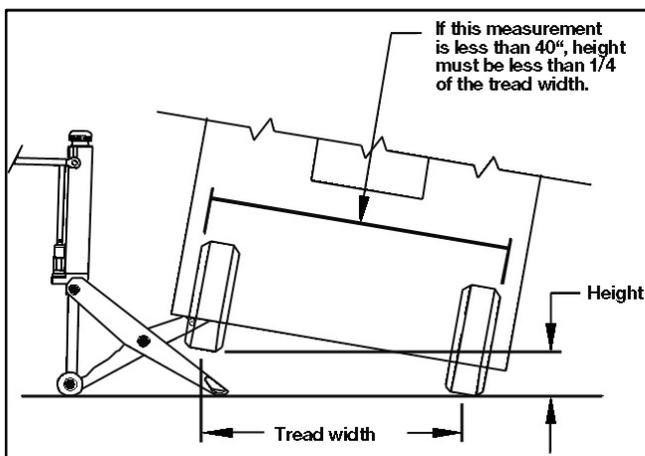

Fig. 4: Lifting height versus forklift width
- ⚠ Make sure at least two wheels of the forklift remain in contact with the floor at all times. Never raise a 3-wheeled forklift from the 2-wheeled end or from the side. Never use the jack to raise all four wheels of the forklift from the floor. Never raise the forklift higher than 1/4 its tread width (See Fig. 4).
- ▶ The jack's front footpad and rear wheels must always remain in direct contact with the floor (see Fig. 4).
- ⚠ Never raise the forklift higher than 1/4 its tread width when using the serrated lift pad (see Fig. 4).